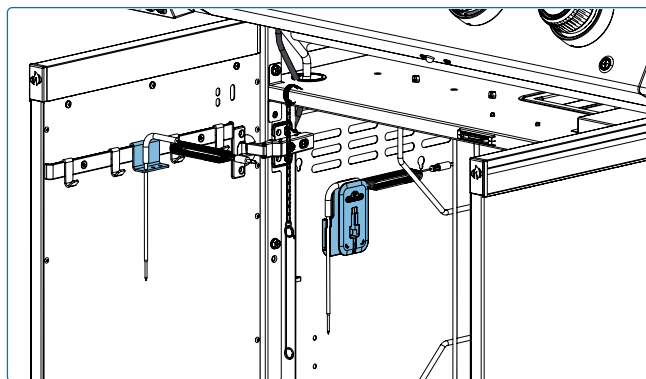

Fig. 10
- Store the rotisserie components on the designated clips inside the cart cabinet. Make sure to wind the rotisserie motor cord. Attach the spit rod on the back of the grill when not in use. This keeps them secure, protected from weather exposure, and easy to access for your next cook. Always ensure the parts are clean and dry before storing to prevent corrosion (**Fig. 10 & 11**).